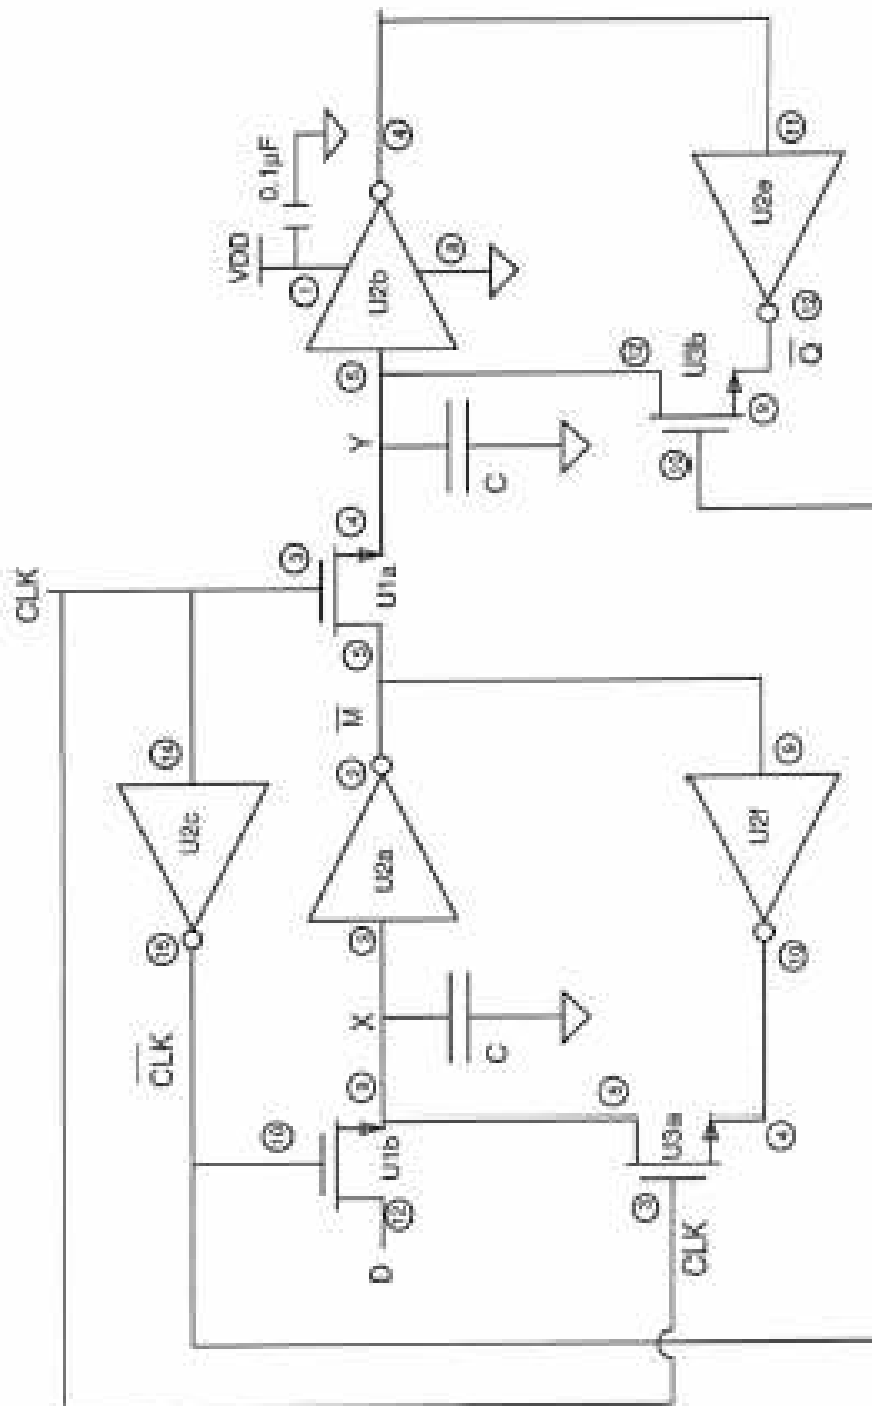

Figure 3: Static MOS D Flip-Flop schematic diagram.
**Step 7** Add the extra circuit shown in Figure 3 that will convert the dynamic flip-flop in Figure 1 to a static flip-flop. Use the available inverters in U2. Add U3, another CD4007, and connect its pin 14 to +15 V and pin 7 to GND.